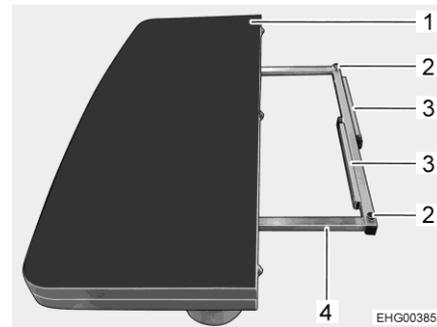

Fig. 94 Table top, folded
- Pull out the table top frame (Fig. 94,4).
- Fold over table top half (Fig. 94,1) and set it down on table top frame.
- If necessary, align the height of the table top using the two knobs (Fig. 94,2).
- Fold out both support legs (Fig. 94,3).